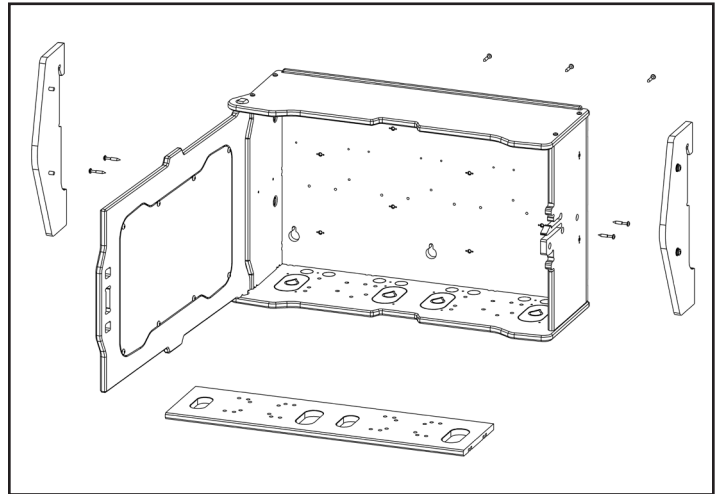

Fig. 6.1: Removing shelf
1. Open the cabinet and remove the Middle Shelf if installed [Figure 6.1]